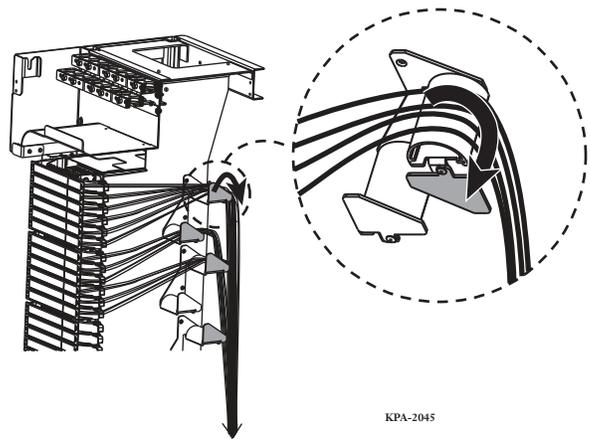

Figure 54
- Step 3:** Rotate the side guide arm until it drops below the plastic radius guide (Figure 54).